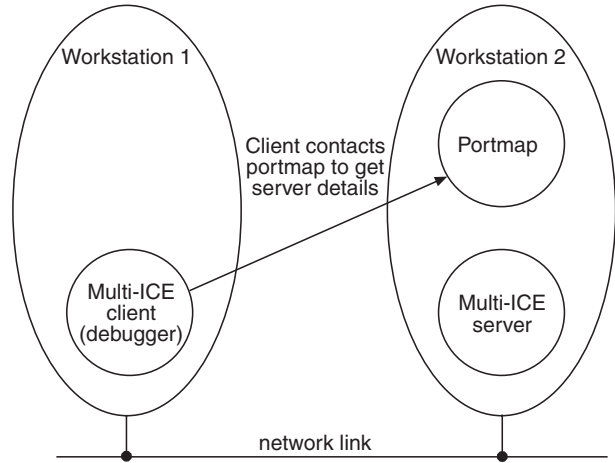

Figure 1-2 RPC client asks portmap for RPC server details
2. When the local portmap service is aware of the RPC server, it can pass on the details to a client process such as the Multi-ICE DLL. The DLL connects to the portmap process requesting the Multi-ICE server details. This step is shown in Figure 1-2 on page 1-4.